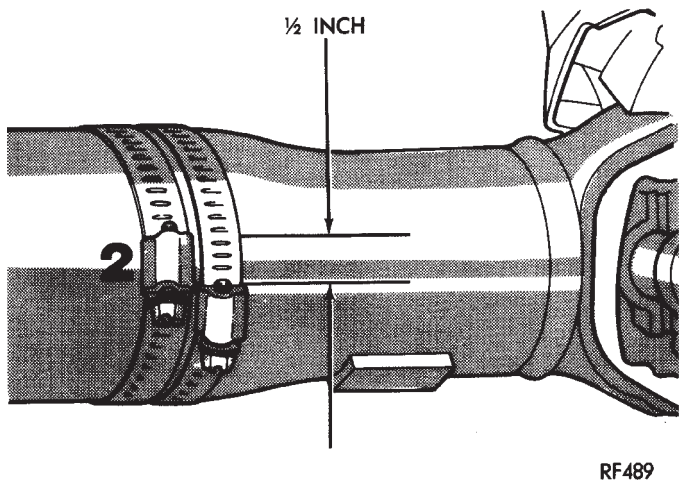

Fig. 9 Clamp Screws Separated
(9) If the clamps cause an additional unbalance, separate the clamps (1/4 inch above and below the mark). Repeat the vibration test (Fig. 9).